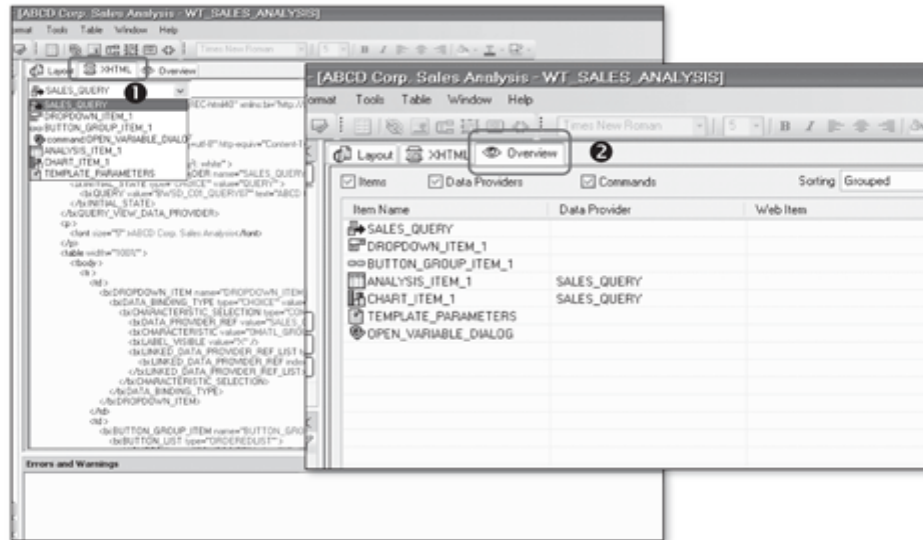

Figure 11.18 XHTML Tab and Overview Tab
As you create the web template using different web items in the layout, the XHTML code for the same is updated for all of the settings and configurations made to the web items. The XHTML code can be seen on the XHTML tab page (see ❶ of Figure 11.18). You can jump to the code relevant for a specific web item by selecting that web item from the dropdown.